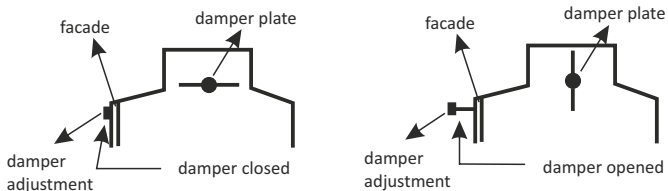

Fig. 6. The example of the damper adjustment
- the cover in the façade of the ash tray, by adjusting the air supply to the bottom of the furnace (see fig. 6).